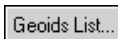

Figure 3-63. Geoids list button
1. Click **Geoids List** (Figure 3-63).